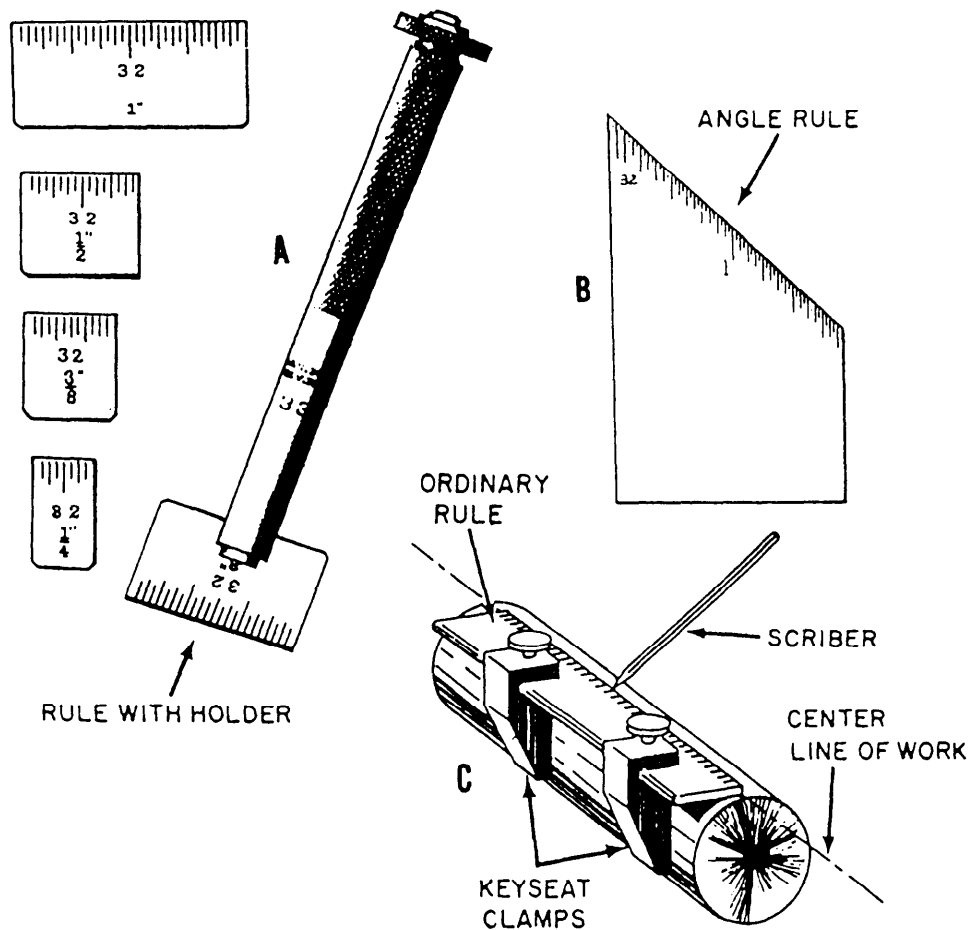

Figure 1-18.—Special rules for shop use.
**RULES.**—The steel rule with holder set (fig. 1-18, view A) is convenient for measuring recesses. It has a long tubular handle with a split chuck for holding the ruled blade. The chuck can be adjusted by a knurled nut at the top of the holder, allowing the rule to be set at various angles. The set has rules ranging from 1/4 to 1 inch in length.
The angle rule (fig. 1-18, view B) is useful in measuring small work mounted between centers on a lathe. The long side of the rule (ungraduated) is placed even with one shoulder of the work. The graduated angle side of the rule can then be positioned easily over the work.
Another useful device is the keyseat rule (fig. 1-18, view C). It has a straightedge and a 6-inch machinist's-type rule arranged to form a right angle square. This rule and straightedge combination, when applied to the surface of a cylindrical workpiece, makes an excellent guide for drawing or scribing layout lines parallel to the axis of the work. This device is very convenient when making keyseat layouts on shafts.